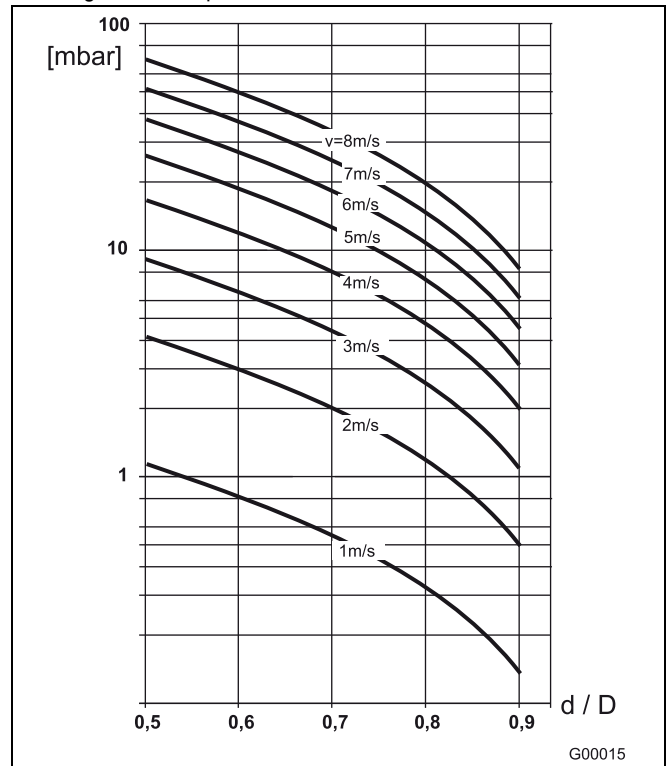

Fig. 37
2. Determine the flow velocity based on the flow range nomograph (Fig. 37).
3. Read the pressure drop on the Y-axis in Fig. 37.